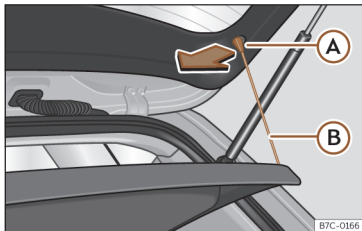

Fig. 179 In the boot: removing and installing the shelf.
- Detach the cord loops >>> **Fig. 179** (B) from their hooks (A).
- Attach the securing straps >>> **Fig. 179** (B) onto the rear lid.